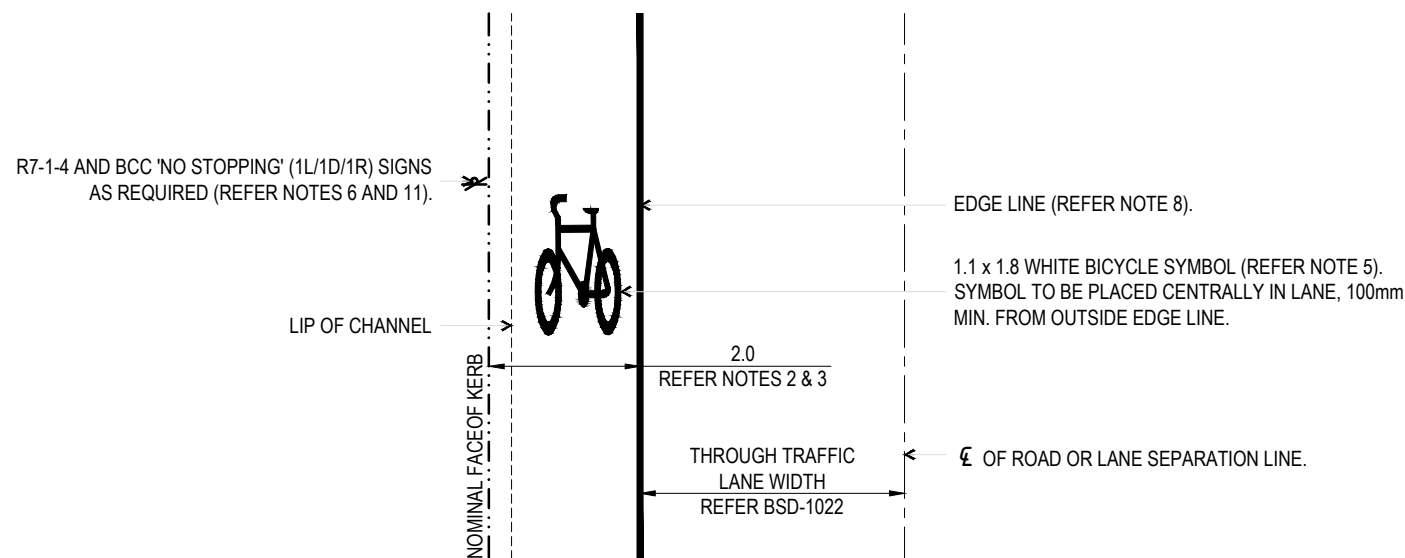

FIGURE 1
3. FOR BICYCLE LANES ADJACENT TO THE KERB (FIGURE 1), THE MINIMUM WIDTH IS TO BE MEASURED FROM NOMINAL FACE OF KERB AND IS TO BE 1.2m MEASURED FROM THE LIP OF THE CHANNEL (BOTH CRITERIA MUST BE MET WHEN CHANNEL IS PRESENT).
1. (\*)=REFER TO BSD-5102 (FIGURES 1&2) FOR WIDTH OPTIONS.
3. ALL BICYCLE SYMBOLS ON ROADWAY TO BE WHITE, 1.1x1.8 AS PER MUTCD PART 9, FIG 2.2. SYMBOLS TO BE SPACED A 200m MAX. REFER TO BSD-5102 (FIGURES 1&2) FOR DETAILS.